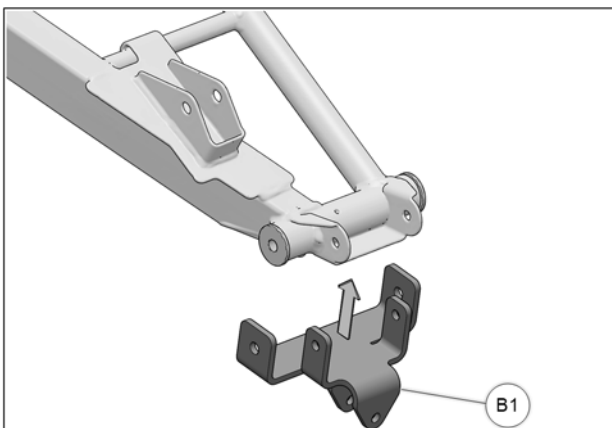

Fig. 6
- Position anchor bracket (B1) under rear suspension arm, aligning holes in bracket and suspension arm. See Fig. 6